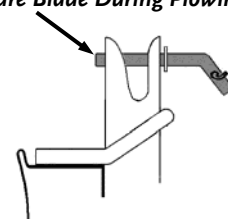

Figure 9
3. Re-insert keyhole pin (**Figure 9**). Repeat same procedure for other side of blade.